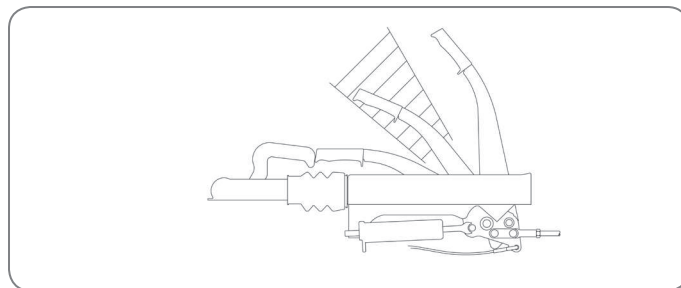

Figure 1.02
4. Apply the Shelter parking brake (figure 1.02). The handbrake handle must be pulled forcefully over the dead centre (see indicated zone).
5. Release the handbrake before moving off. The handbrake handle must be pulled forcefully over the dead centre (see indicated zone in figure 1.02) into the end position.